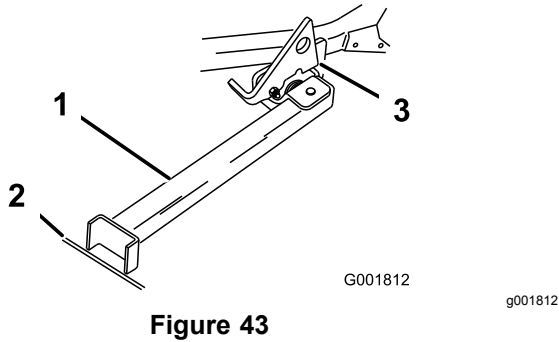

Figure 43
- Swing the stand foot out front and slide it toward machine, into the bottom of slot (Figure 42 and Figure 43).
- Set the foot of the stand on the ground and rest the latch on the pivot tab (Figure 43).
**Note:** For best results, place the foot of the stand into the seams in sidewalks or into the turf (Figure 43).
- Drive the machine onto the stand. Stop when the latch drops over the tab into the locked position (Figure 43).